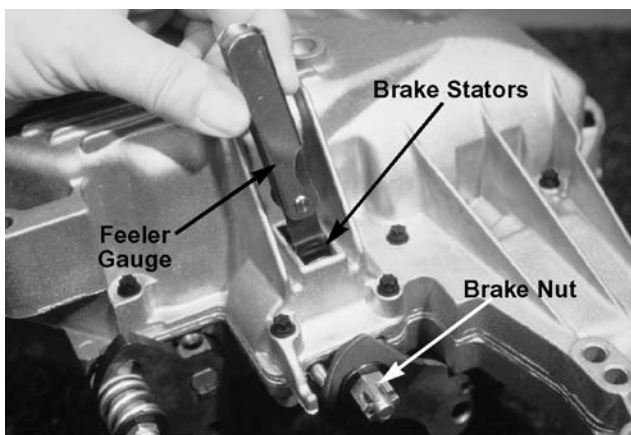

**Figure 6-127**
4. The brake setting may be measured through the brake assembly window of the lower housing. To measure the brake setting insert a feeler gauge between the outside two stators of the brake pack. A gap between the two stators as shown. See Figure 6-126 and Figure 6-127.